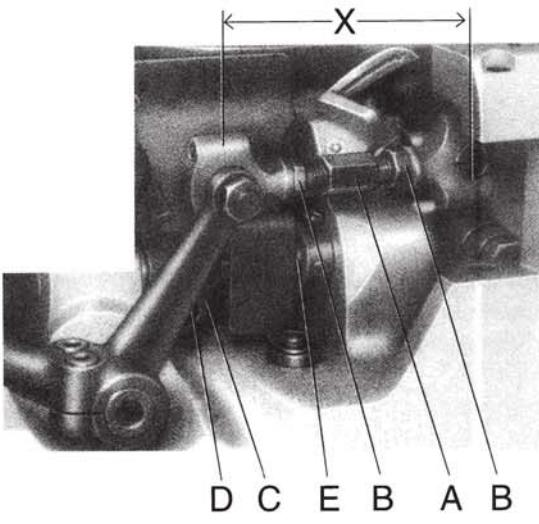
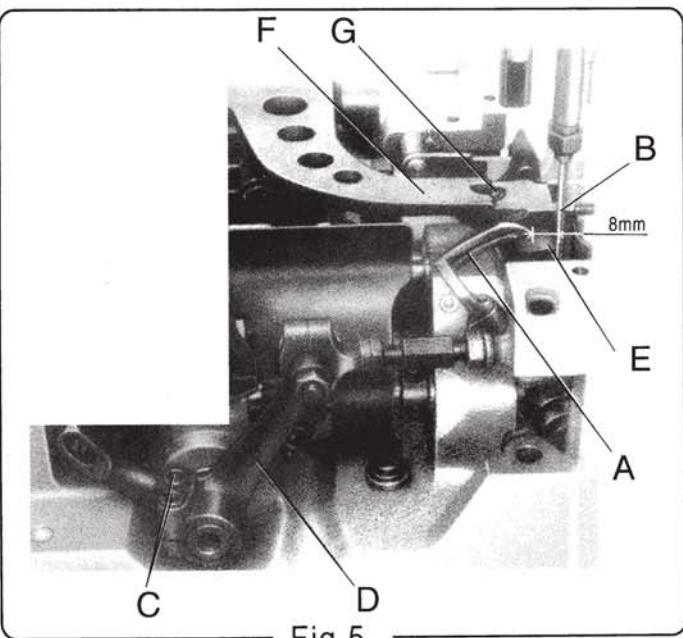
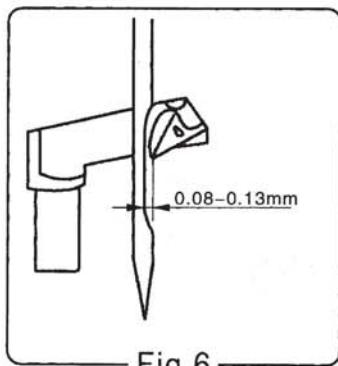
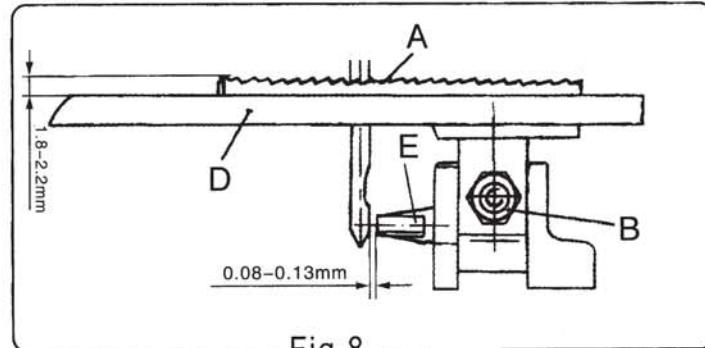

Fig.4
Fig.5
Fig.6
Fig.8
(1) Looper
- a. First set the looper connecting rod A(Fig.4), so the distance X (Fig.4) between the centre lines of the two ball joints is 69.8mm. For adjustment, loosen the two nuts B and turn connecting rod A forward or backward as required to obtain specified dimension. Retighten nuts B.
- b. Rotate the machine pulley clockwise by hand, so that the needle bar moves to the lowest point, at the same time the looper moves back to its farthest position to the right. The distance from the point of the looper A (Fig.5) to the centreline of the needle is 8mm. For adjustment, loosen two screws C in the looper drive lever, rotate looper drive lever D left or right as required to obtain specified dimension and retighten screws C.
- c. Rotate the machine pulley so that the looper A(Fig.5) moves from right to left. The looper point should pass close as possible as the back of the needle without contacting, about 0.08~0.13mm (Fig.6) clearance. For adjustment, loosen screw D(Fig.4)in the looper eccentric fork C and turn rocker shaft E on the looper rocker with the looper forward or backward as required. Retighten screw D.
(2) Needle Bar
The needle guard E(Fig.8) will protect the needle and prevent it from bending or breaking when the needle goes down. The clearance between the needle and the needle guard is 0.08mm~0.13mm(Fig.8). For adjustment, rotating pulley in the direction of operating, so that the needle guard moves against the needle. Loosen set screw G on feed dog holder (Fig.5), move the needle guard accordingly. Retighten screw G.
The height of the feed dog A(Fig.8)is determined by the quality and the thickness of the sewing materials. For closing thin material such as bags made of cloth and plastic, teeth surface should project 1.8mm above the throat plate D top surface, and for sacks about2.2mm above the throat plate. For setting, move the feed dog to the highest position, loosen nut B and adjust feed dog by raising or lowering it. Retighten nut B.